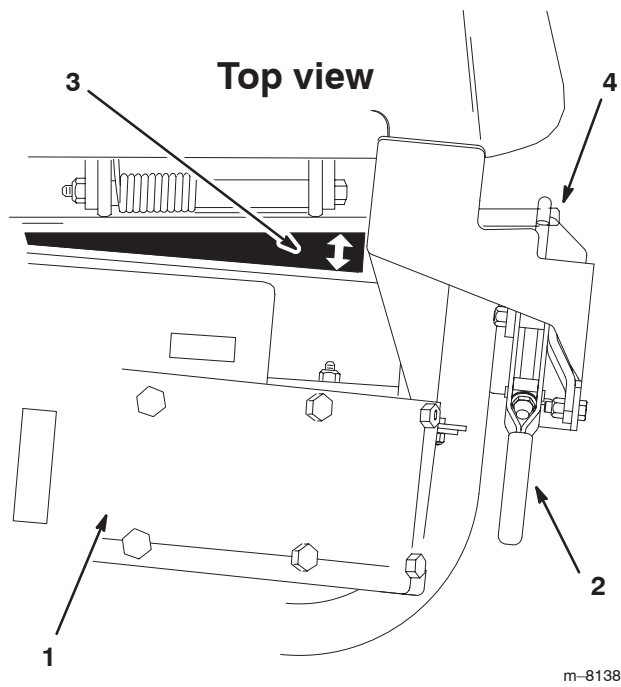

Figure 25
1. There must **not** be a gap between the mounting plate the the blower assembly (Fig. 25). If there is a gap, proceed to step 3 and shorten the latch.